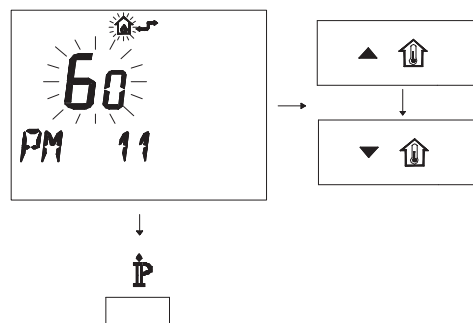

Fig. 7.31
- To modify the programmed SET, act on buttons   or   and wait for the programmed number to flash (Fig. 7.31). Each step increased or decreased corresponds to 1 second.